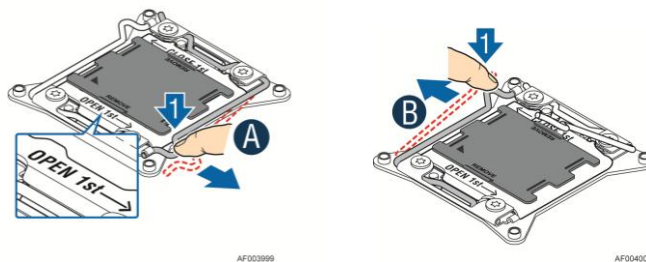

Figure 7. Installing Processor – Open the Socket Lever
2. Place the top cover on the compute module so that it engages the cover guide notches (see letter **A** in Figure 7).
3. Slide the top cover forward to the closed position until the retention latch fully engages (see letter **B** in Figure 7).